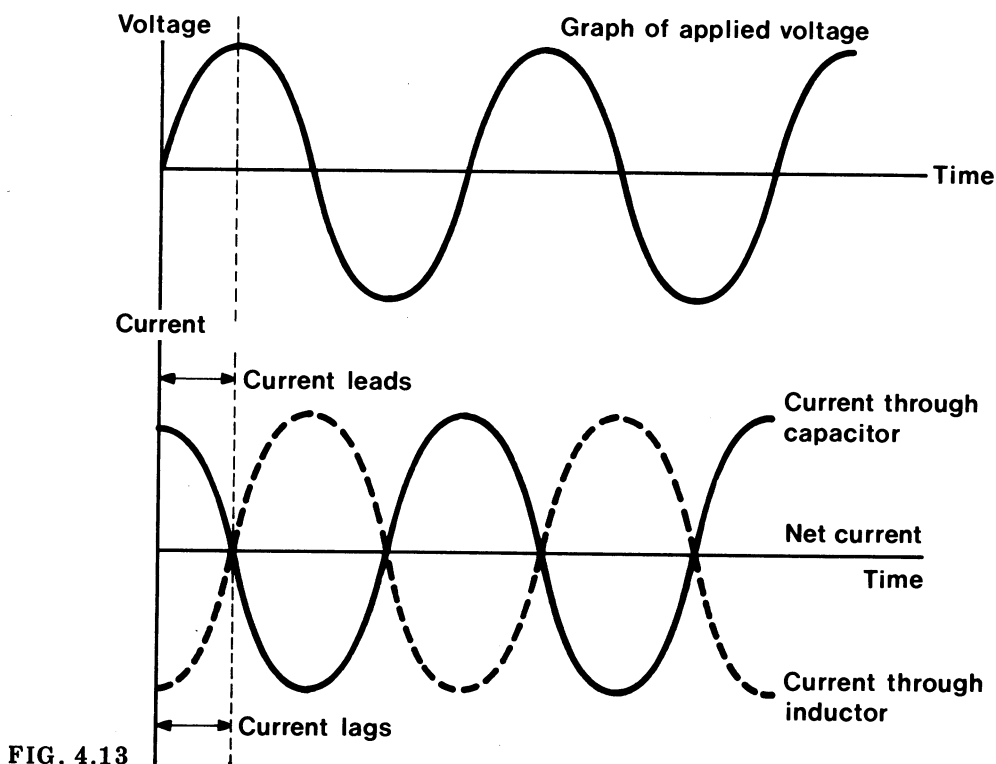

FIG. 4.13
38. The current through a 'pure' or 'perfect' capacitance leads the applied voltage by a  $\frac{1}{4}$  of one cycle of the waveform (see Fig. 4.13). The current through a perfect inductor lags behind the applied voltage by  $\frac{1}{4}$  of a cycle. Instead of using the term cycle one uses the term 'phase difference'. A difference of  $\frac{1}{4}$  of a cycle corresponds to a phase difference of  $90^\circ$  (see Explanation 6).